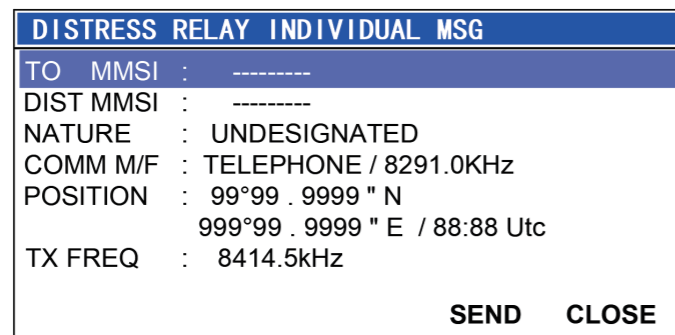

Figure 4.2.3
- b: Use the channel knob to select <DISTRESS RELAY INDIVIDUAL MSG>, then press [CH/ENT] to open the editing interface, as shown in Figure 4.2.3.